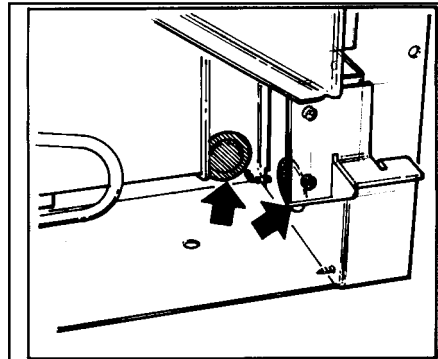

Figure 13 Concealed openings
7.1If the gas supply pipe is to enter through the concealed rear or side opening, pierce the relevant grommet (See figure 13). If the supply pipe is sleeved, trim the sleeve back where it enters the appliance and seal the sleeve to the pipe.